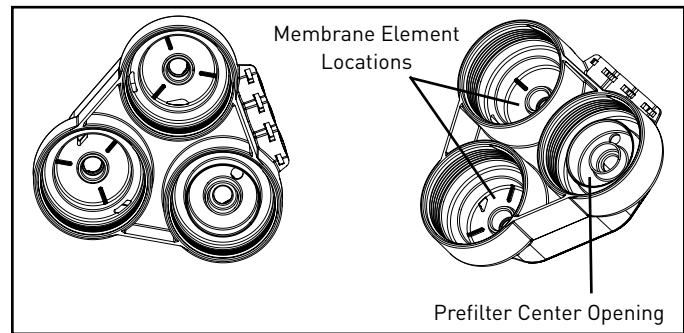

Figure 14
- b. Pour a tablespoon (15 milliliters) of chlorine bleach into the center opening of the prefilter sump connection. See "Figure 14".